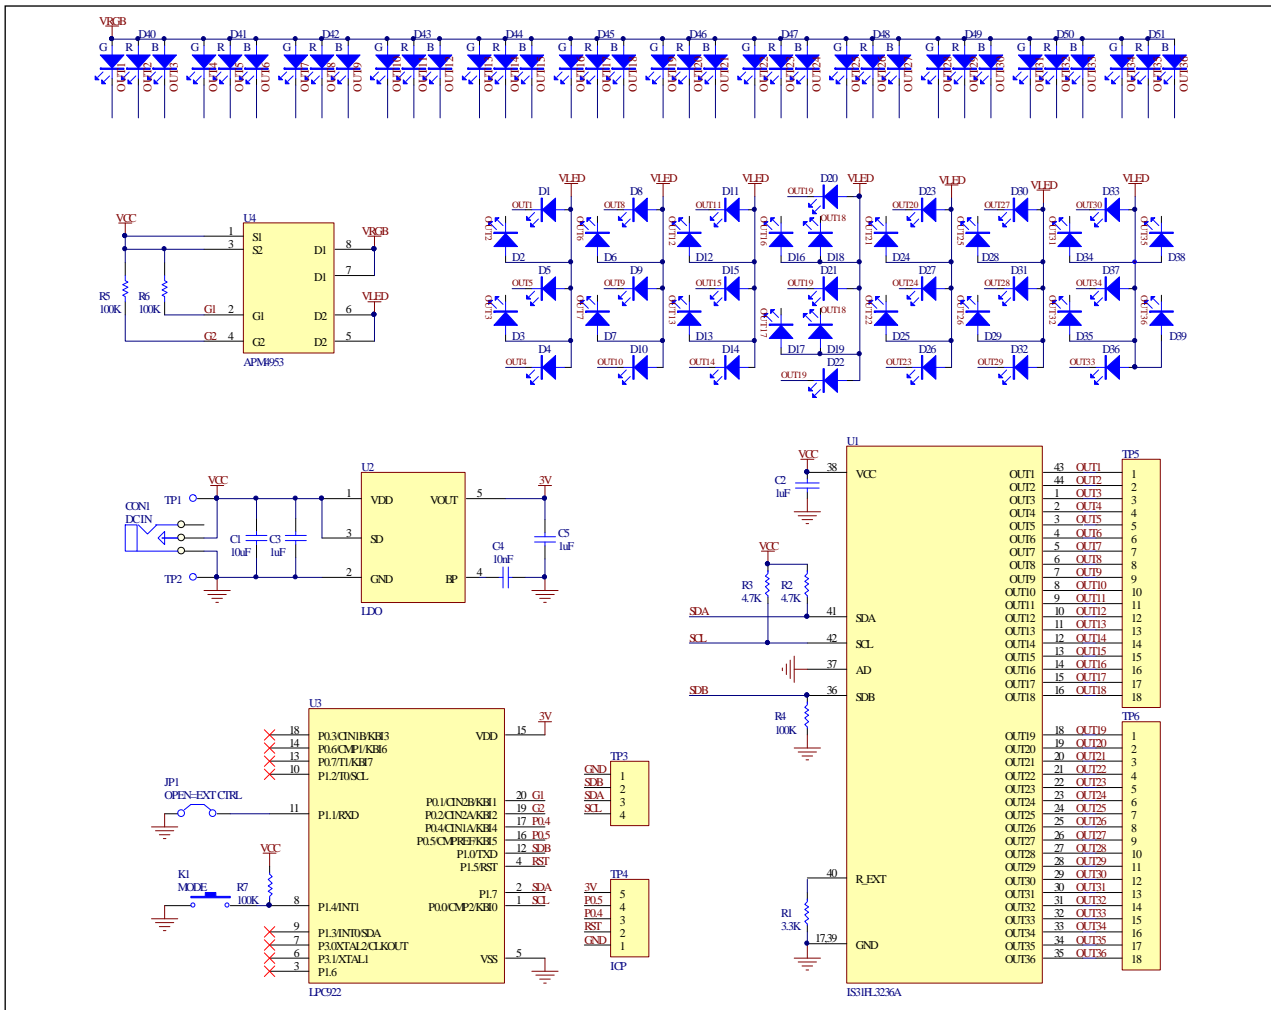

Figure 3: ISSI3236A Application Schematic
*Bill of Materials, refer to Figure 3 above.*